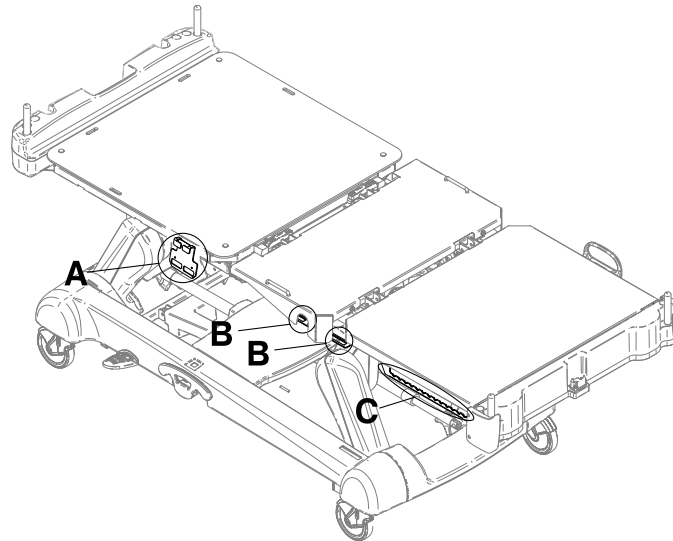

Figure 1-10: Foley bag hooks
There are two isolated foley bag hooks under the seat section (B) on both sides of the product (Figure 1-10 on page 1-26). If you weight the patient with the scale system, the isolated foley bag weight is not included with the patient weight.
There are four foley bag hooks under the fowler section (A) and foot section (C) on both sides of the product (Figure 1-10 on page 1-26). If you weigh the patient with the scale system, the foley bag weight is included with the patient weight.